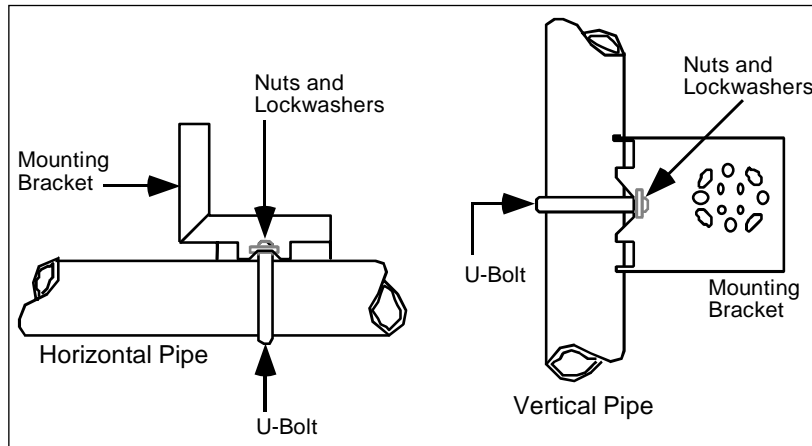

Figure 5 – Angle Mounting Bracket Secured to a Horizontal or Vertical Pipe
1. Refer to Figure 5. Position the bracket on a 2-inch (50.8 mm) horizontal or vertical pipe, and install a “U” bolt around the pipe and through the holes in the bracket. Secure the bracket with the nuts and lock washers provided.